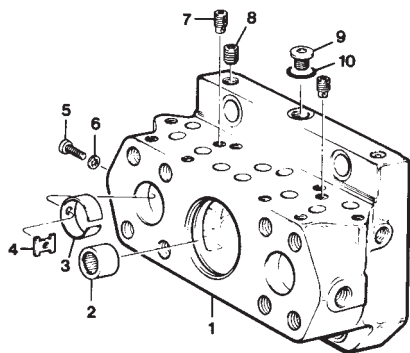

Figure 7
See figure 7. Position the port block (1) on a clean flat surface with the two open ports up. THE OPPOSITE FACE MUST NOT BE SCRATCHED OR DAMAGED. Position needle bearing (2) on tool (Figure T-5) with the marked end of the bearing against the shoulder on the tool and press the bearing (2) into the port block. The bearing must be .010-.025" (.254-.635 mm) below the surface.
PARTS LIST FOR FIGURE 7